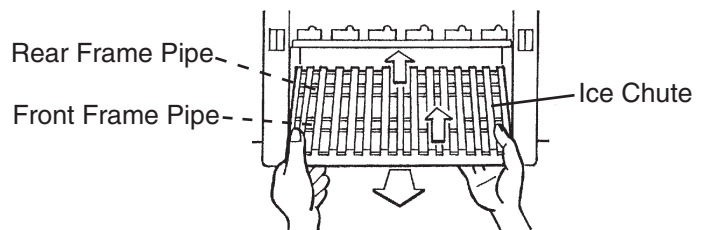

Fig. 31
- 6) Lift off the ice chute from the front frame pipe and then from the rear frame pipe. See Fig. 31.